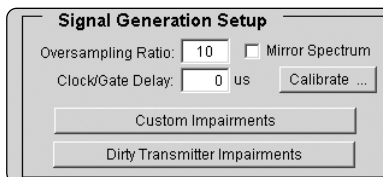

Figure 44. Signal Generation Setup menu.
- Use the calibrate utility to determine the signal propagation delay through the ESA. Select the **Calibrate** button in Figure 44. The calculated waveform is automatically downloaded to the ESG and the calibration utility is initiated.